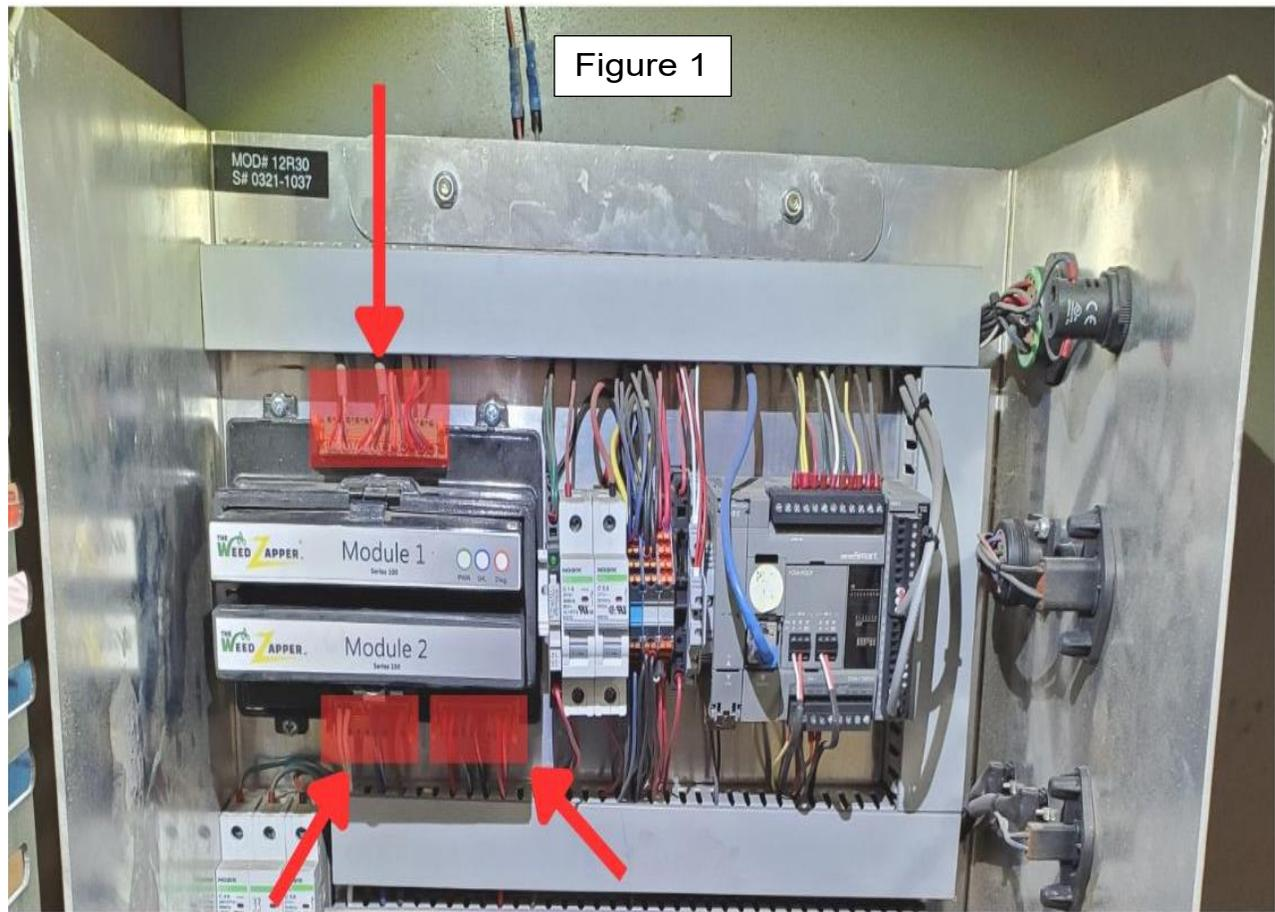

Figure 2
4. Remove four Phillips-head screws that secure the module assembly to the panel. (see Figure 2)